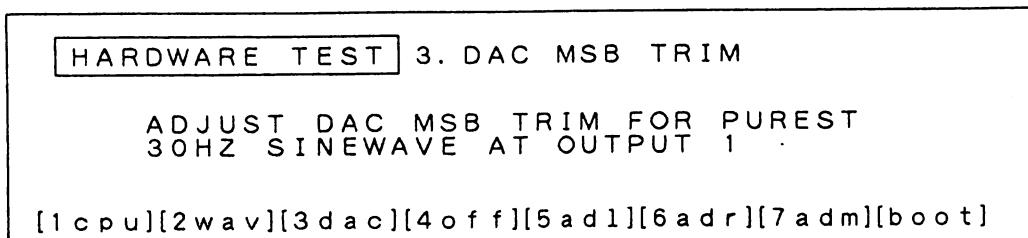

Fig. 4-9
- 1) During the HARDWARE TEST mode, press the "F3/C" button. The following menu appear on the LC-display(refer to Fig. 4-9). This indicates that the sinewave(30 Hz) has been loaded and DAC MSB adjustment mode is set.